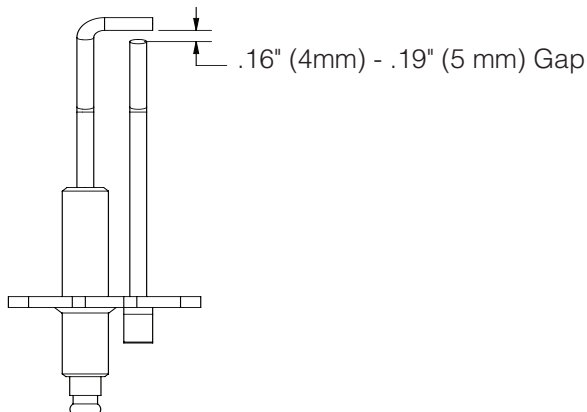

Figure 18-2: Ignitor/flame sensor spark gap
- C. Verify ignitor/flame sensor spark gap is within range shown in Figure 18-2.